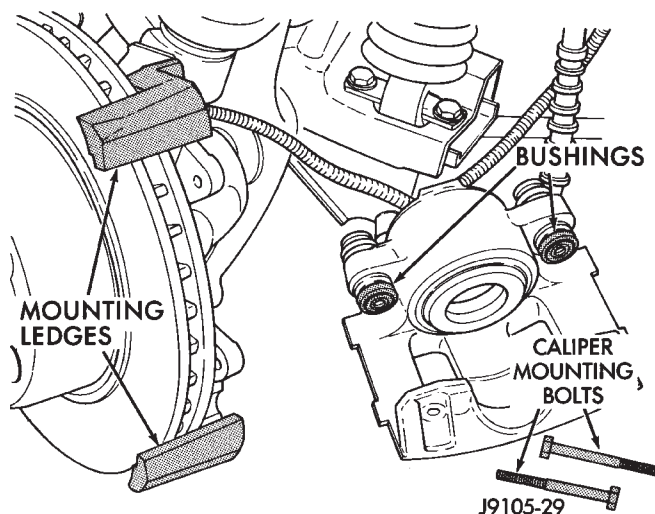
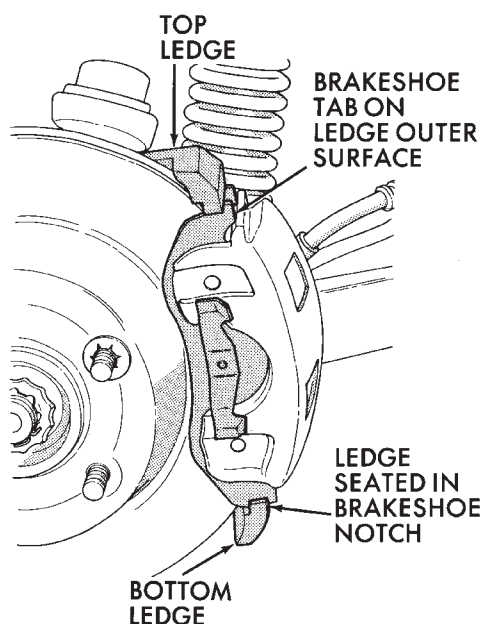

Fig. 31 Caliper Lubrication Points
Fig. 32 Caliper Installation
(1) Clean brakeshoe mounting ledge slide surfaces of steering knuckle with wire brush. Then apply light coat of Mopar multi-mileage grease to slide surfaces. Lubricate mounting bolts and bushings with GE 661 or Dow 111 silicone grease (Fig. 31).
(2) Install inboard shoe in caliper and verify shoe retaining springs are fully seated into the piston.
(3) Install outboard shoe in caliper by starting one end of shoe in caliper and rotating shoe downward into place. Verify shoe locating lugs and shoe spring are seated.
(4) Install caliper by position notches at lower end of brakeshoes on bottom mounting ledge. Then install caliper over rotor and seat upper ends of brakeshoes on top mounting ledge (Fig. 32).